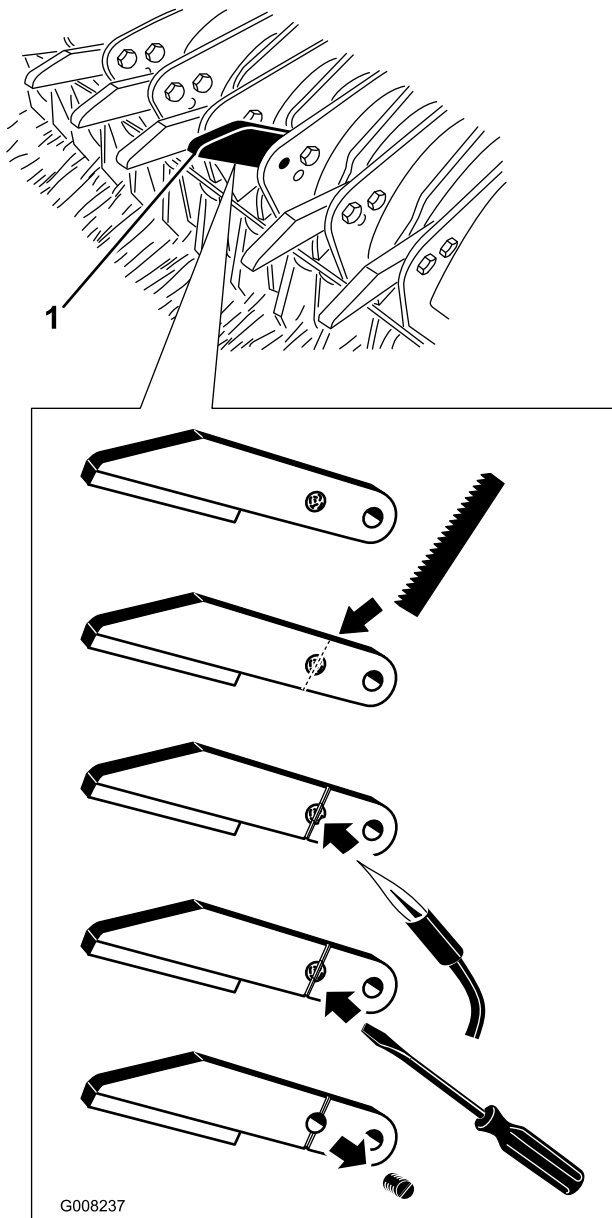

Figure 38
1. Remove the non sheared bolt securing the chopper tip to the blade (Figure 38). Remove the chopper tip from the blade.
2. Using a hack saw, cut a slot in the sheared end of the bolt and into the chopper tip (Figure 38). Make sure the slot is deep enough to engage a straight bladed screw driver.
3. After completing the slot, heat the sheared bolt with a torch to soften the Loctite (Figure 38).
4. Once the Loctite is softened, thread the sheared bolt out of chopper tip (Figure 38).